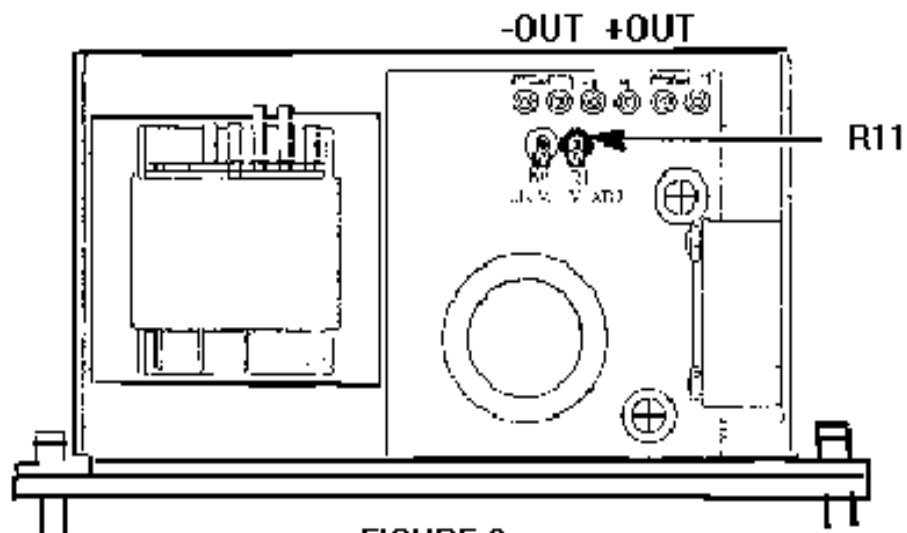

FIGURE 2
2. Connect a DVM to FRU9 using Figure 2 as a guide. The (+) lead of the DVM connects to the (+ OUT) bifurcated terminal and the (-) lead of the DVM connects to the (-OUT) bifurcated terminal.
4. Adjust heater power supply voltage. Using Figure 2, locate R11(V. **Adj**) on FRU9. Adjust R11 clockwise until the DVM reads 28 ± 0.02 VDC. Read the DVM and record the voltage here: _____ VDC.